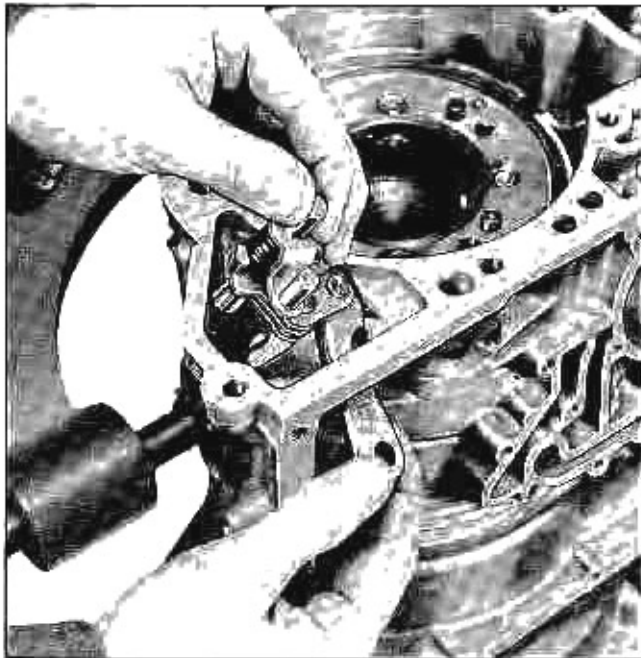

Fig. 116 Installing Parking Linkage in Case
2. Install parking assembly, parking pawl first, through hole in rear of case so that pawl tooth faces inside of case (Fig. 116).